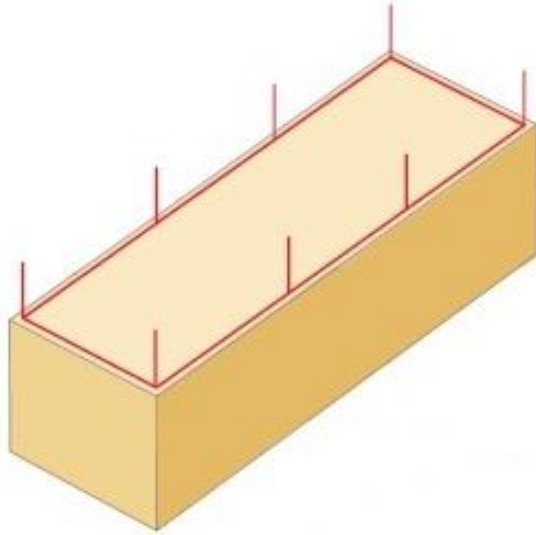

Figure 1
1. Rods (Air Finials) (Figure 1)